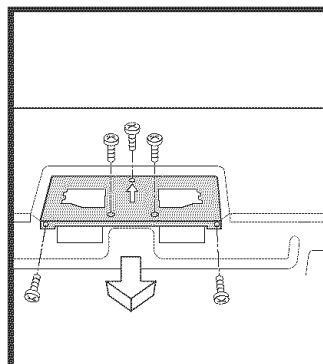

Figure 11
1. Remove and save 2 screws from back edge and 3 screws from the top center of the Fan Cover Bracket. Remove Fan Cover Bracket by sliding it in the opposite direction of the arrow on the Fan Cover Bracket as shown in Figure 11.